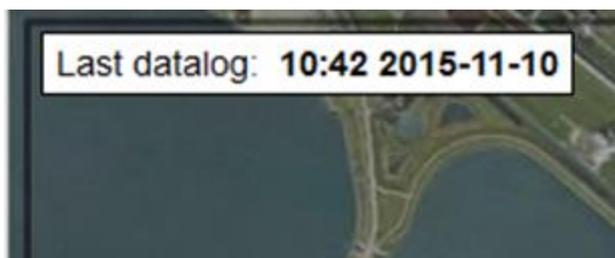

Figure 3: Last data log information
- ▲ Last data log information (left upper corner) – indicates when was the time of last data collection – latest refresh time stamp (Figure 3).